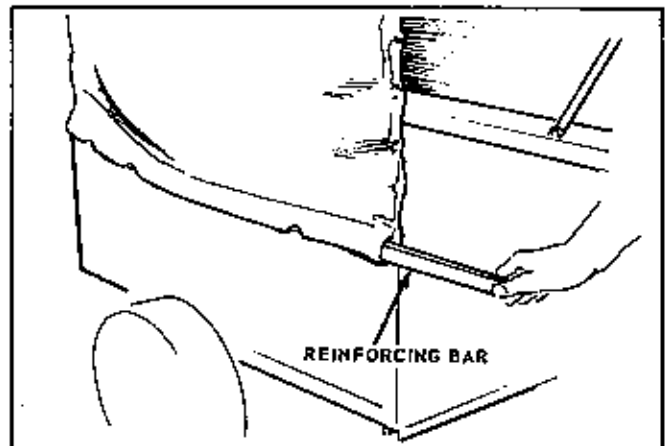
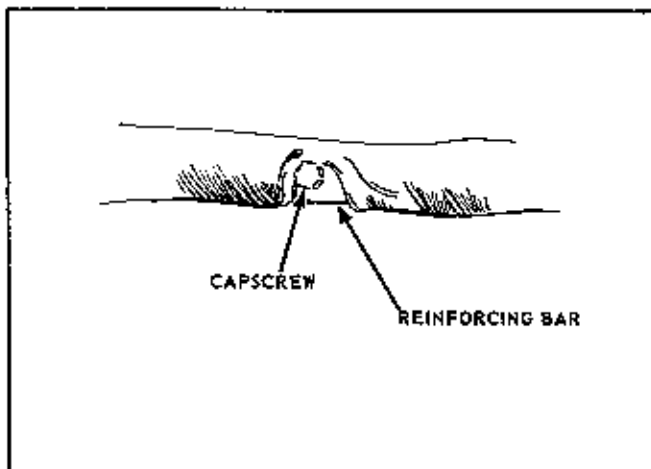

FIGURE 4
FIGURE 5
D. Figure 4 shows the insertion of the side reinforcing members into the slots at the sides of the canvas enclosure. Secure those in place on both sides as shown in Figure 5, with the capscrews and attaching hardware provided.